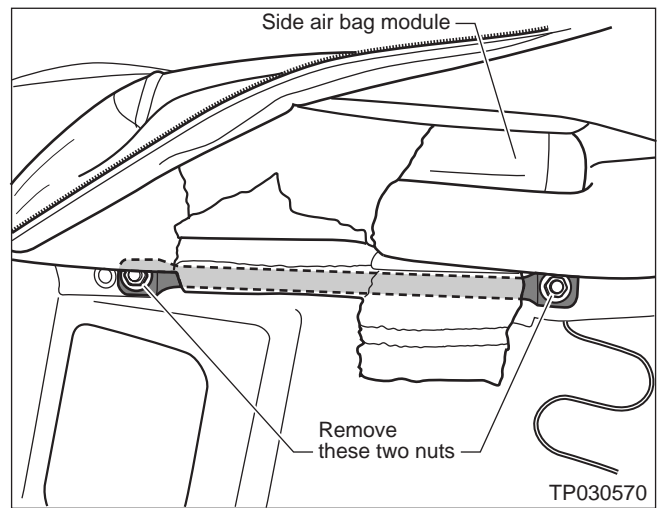

Figure 5
7. Locate and remove the nuts shown in Figure 5.